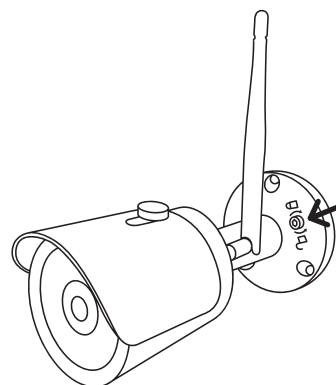

Fig.5
- To adjust the camera angle, loosen the screw at the bottom of the camera using the Allen key provided with the system (Fig. 5). Next, adjust the two dimensions of the camera to set its position at the required angle. After adjusting the camera, tighten the locking screw.